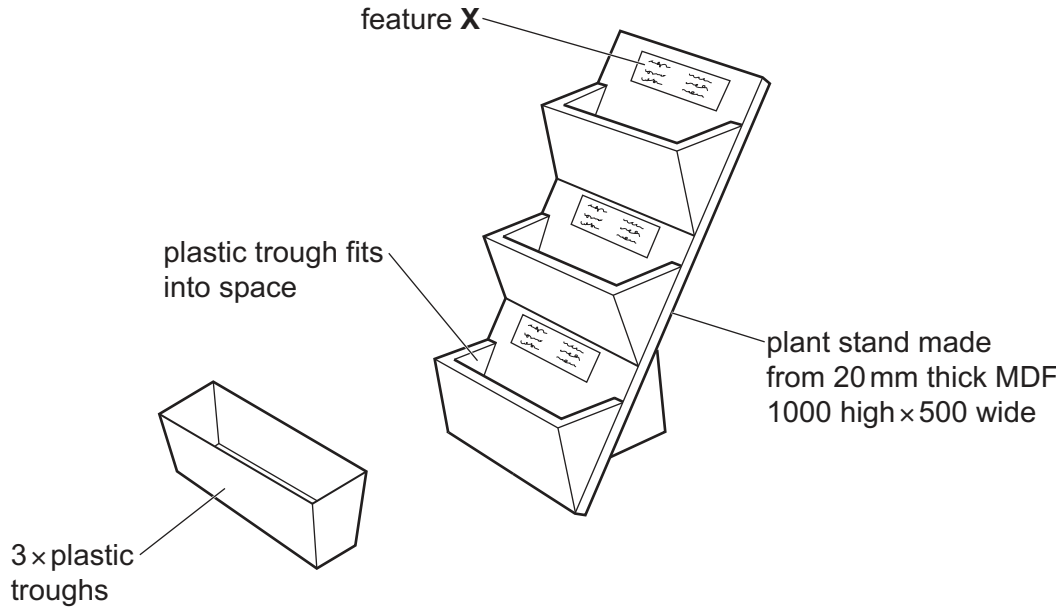

Fig. 4.1
- 4 Fig. 4.1 shows an incomplete design for a plant stand that is to be used outdoors at a garden centre.